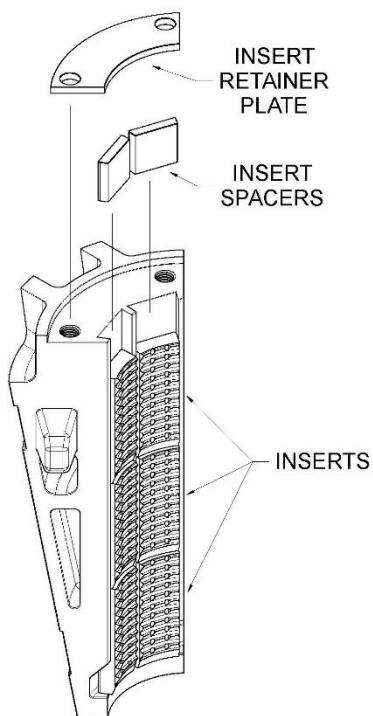

Figure 2
- ▶ Make sure the proper size of inserts are loaded into the slip segments, followed by the insert spacers, and then place an insert retainer plate into each slip. (See figure 2)